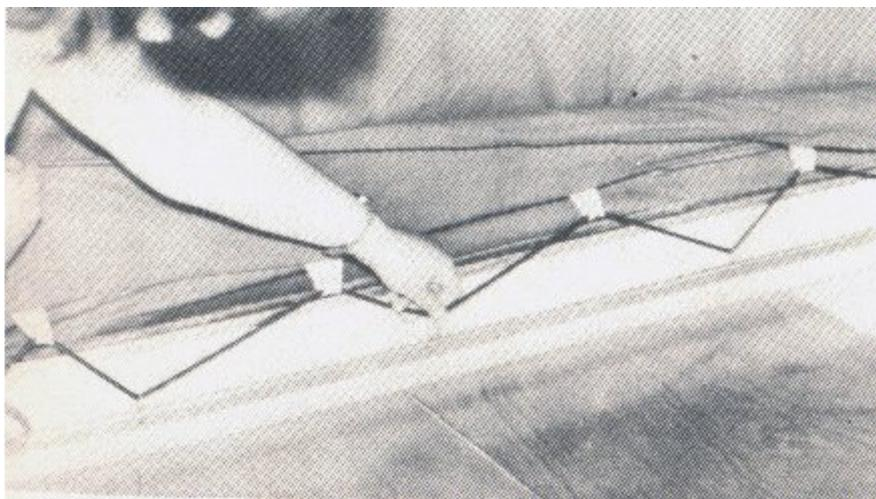

Fig. 16
4.5.6 On both sides of the sunbathing area (fig. 16) as well as at the edges of the lid the tent pages are to hang up and to press the attached push-buttons.